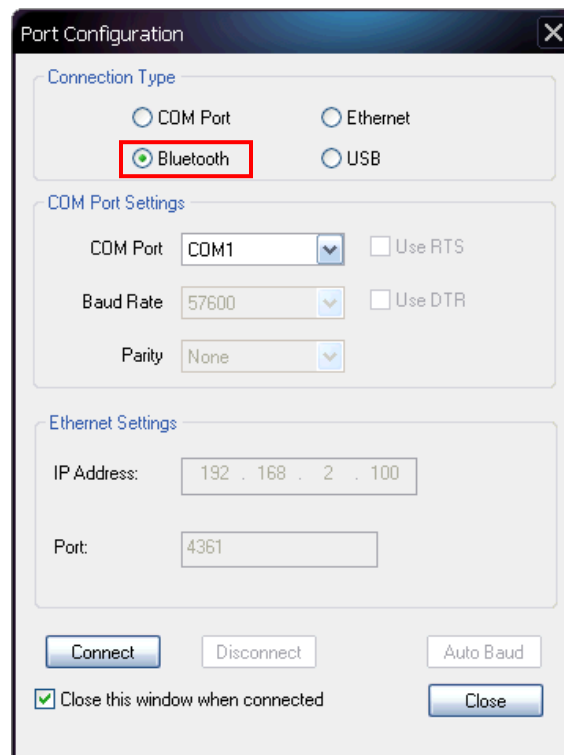

Figure 47: Port Configuration – Bluetooth Settings
12. Click the *Connections* button on the Shortcut Bar. The *Port Configuration* dialog box opens (see Figure 47).
Refer to Figure 47 for the steps below: